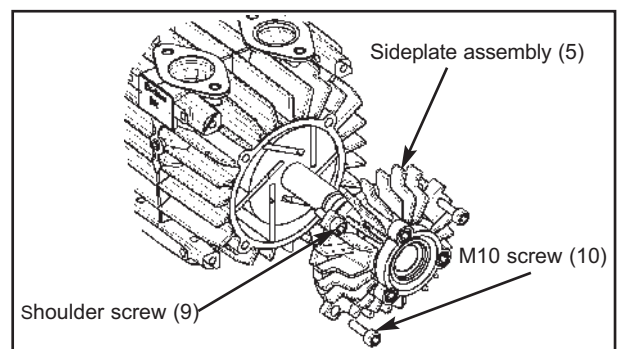

Figure 13
4. Remove the fan (11). Inspect the split sleeve and fan for damage and replace as necessary.
5. Remove the three M10 sideplate capscrews (7) and the M8 sideplate shoulder screw (9) ; See figure 13.